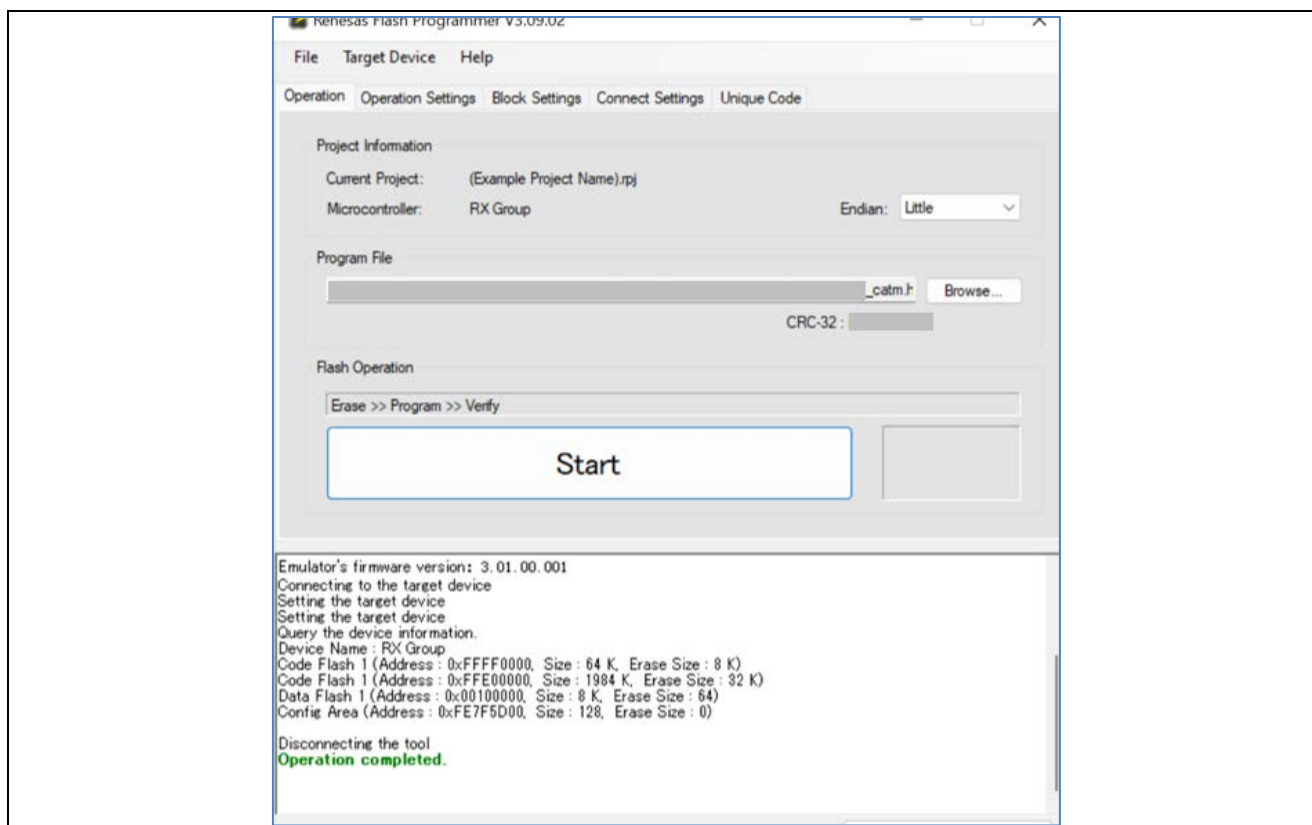

Figure 4. Main Window of Renesas Flash Programmer After Creating a New Project
7. Verify the message **Operation Completed** is printed in the main window. Under Program File, click **Browse** to choose the program file that will be flashed onto the board (Figure 4). Using the file explorer window, navigate to the example project's **Hex File** (located in **r21qs0010euxxxx-ryz024a-rsk-rx671.zip → ryz024a_quickstart_rx671/ ryz024a_quickstart_rx671.hex**) and click **Open**.